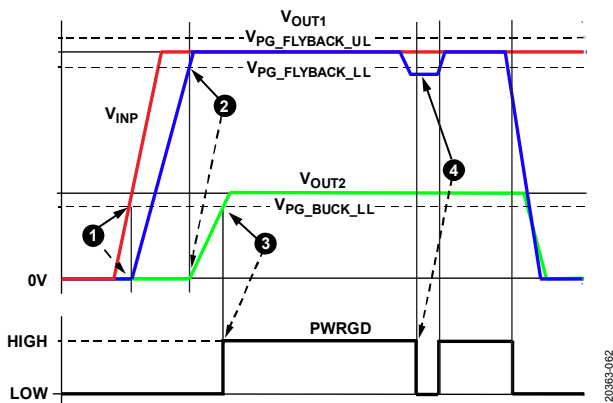

Figure 68. Power Sequencing and PWRGD
The power-up sequence is as follows (see Figure 68):
1. The flyback regulator powers up first (see Label 1 in Figure 68).
2. When V_{OUT1} rises above the lower power-good threshold ($V_{PG_FLYBACK_LL}$), the buck regulator turns on (see Label 2 in Figure 68).
3. When the buck regulator output (V_{OUT2}) rises above the lower power-good threshold ($V_{PG_BUCK_LL}$), the PWRGD is driven high (see 3 in Figure 68).
4. If any of the two analog supplies move outside the power-good threshold ranges, PWRGD drives low after a short deglitch delay (see 4 in Figure 68).